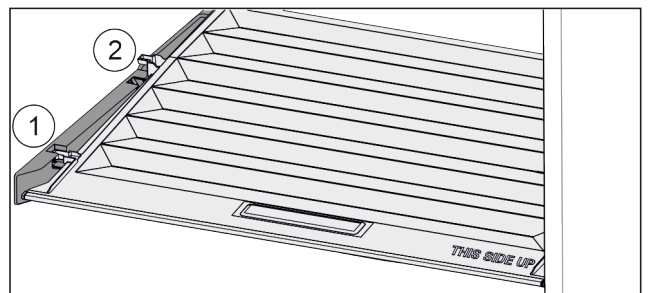

Fig. 38
- ▶ Pull the lid up at the front to the opening in the retaining parts Fig. 38 (1).
- ▶ Lift from the back and pull it up and out Fig. 38 (2).